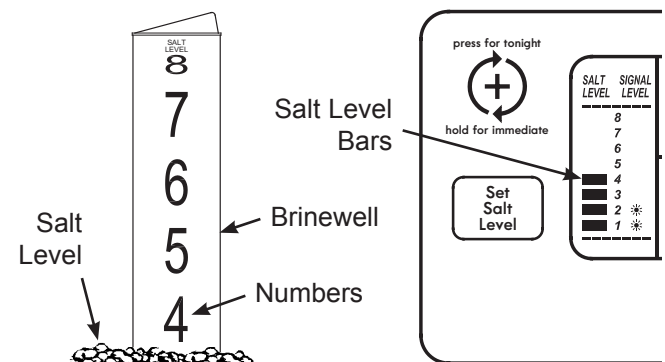

FIG. 25
2. The salt level scale, on the brinewell inside the tank, has numbers from 0 to 8 (see Fig. 25). Observe the highest number the leveled salt is at, or closest to.
as necessary to make the salt level bars in the display (see Fig. 25) match the number on the brinewell. At level 2 or below, the Status Light will flash (See Page 12).